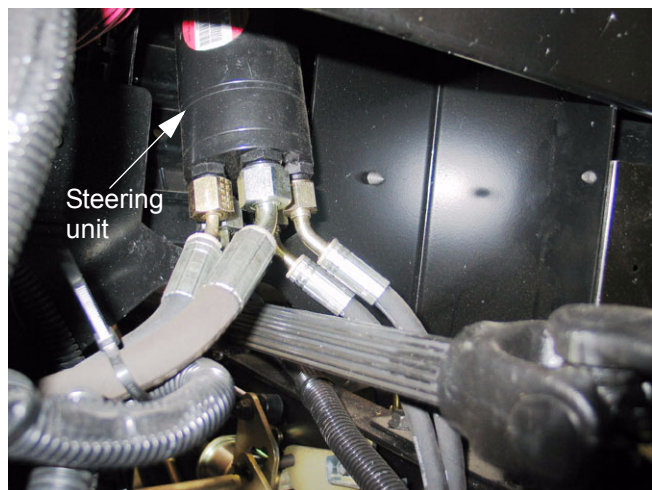

Figure 1.7
- 1.7. The steering unit, located in the dash pedestal contains it's own back-up gerotor charge pump that will enable steering control when the engine is not running. See Figure 1.7.